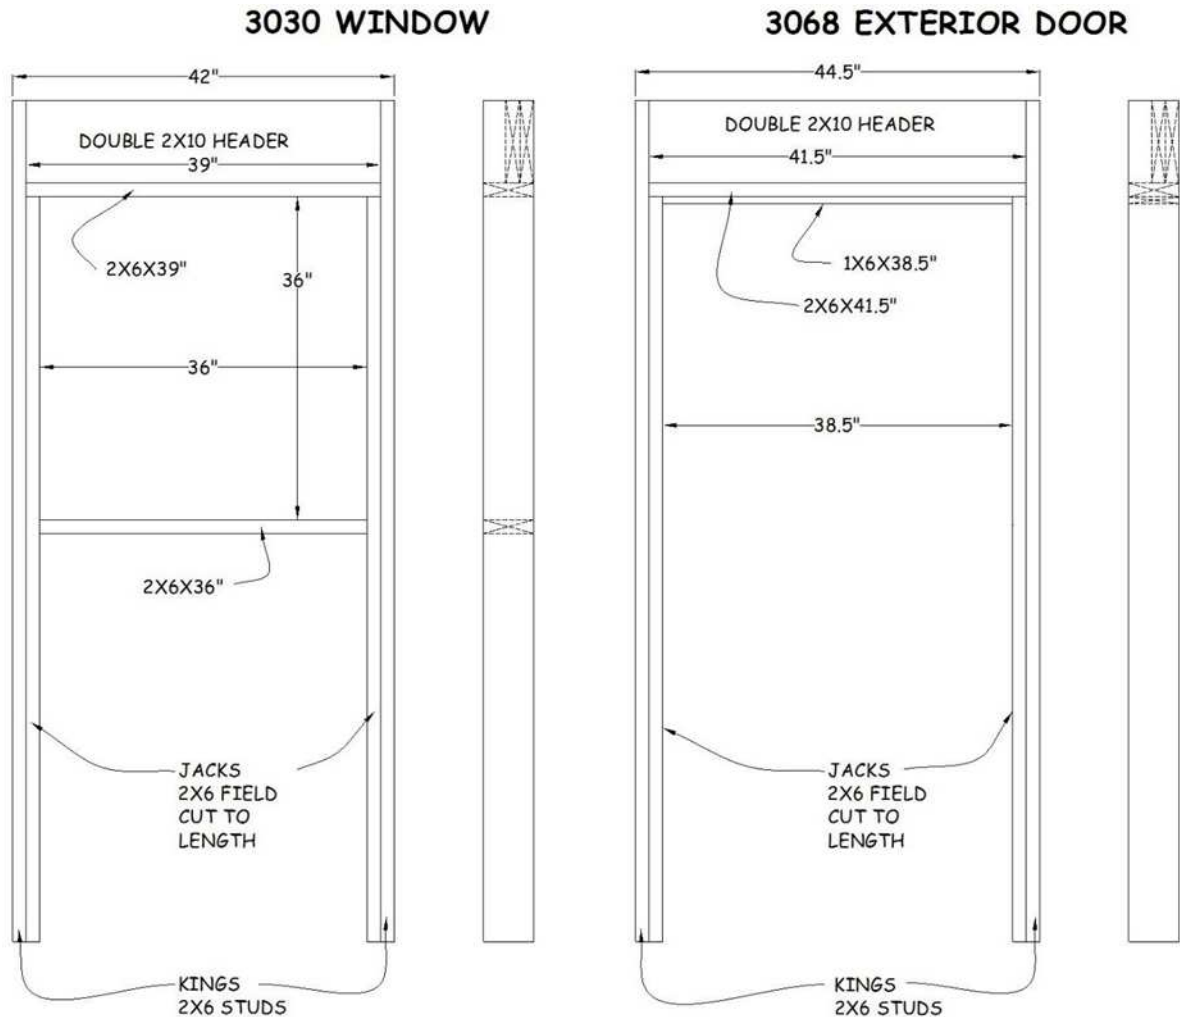

Figure 4-1. Examples of Exterior Wall Component Assembly Drawings.
1. Referring to the Component Assembly Drawings for exterior components in the House Plan Support Documents, assemble the window and exterior door components (see Figure 4-1 for examples of exterior component assembly drawings).